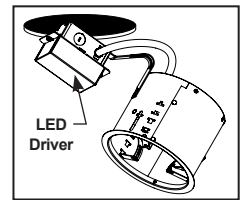

Figure 4
**Step 5.** Press housing through ceiling opening so it is flush to ceiling (Fig. 4). Push retention clips outward until each clip tab clicks into position. A single "T" slot clip is provided for additional support. Insert clip through "T" slot from inside housing, force clip down with screwdriver until clip is seated. Secure clip by tightening screw (Fig. 5). *Note: To remove housing from ceiling, push tab on clip upward to disengage.*